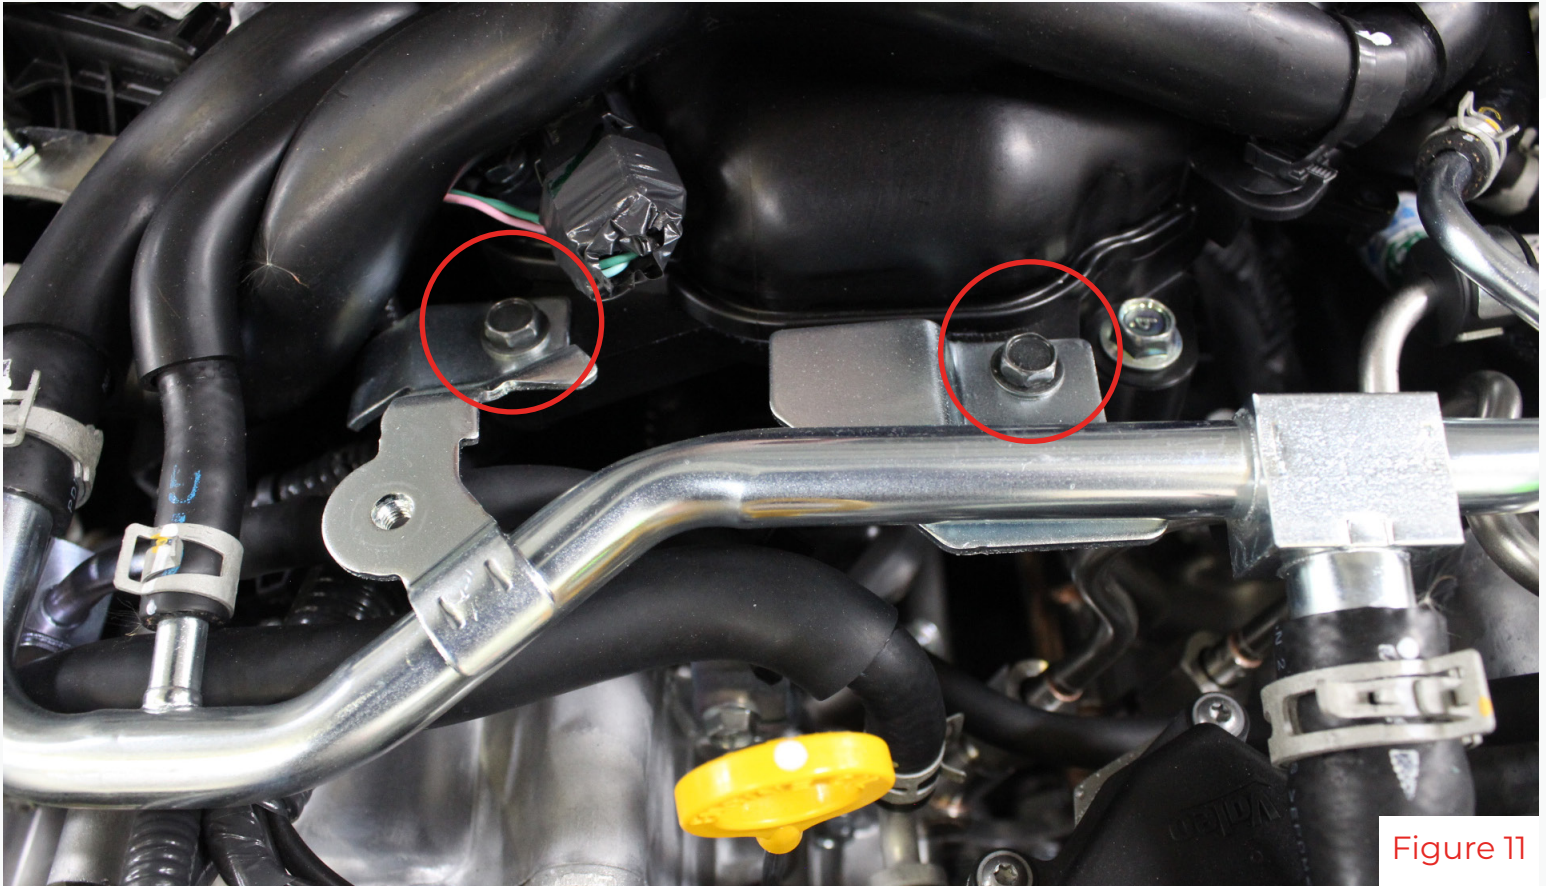

Figure 11
7. Remove the two bolts under the water line holding the hard pipe to the manifold(fig 11).